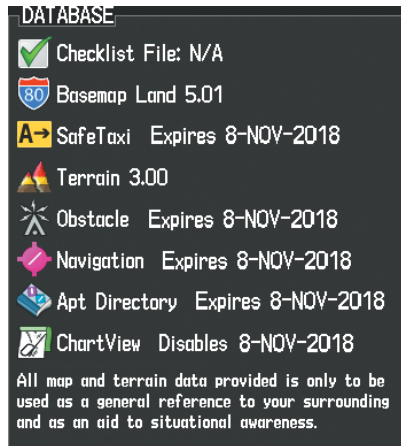

Figure B-11 Database Information on the Power-up Page
- 4) Apply power to the system, check that the databases are initialized and displayed on the Power-Up Page (Figure B-11). If a 'Verifying' message is seen, wait for the system to finish loading before proceeding to step 5.